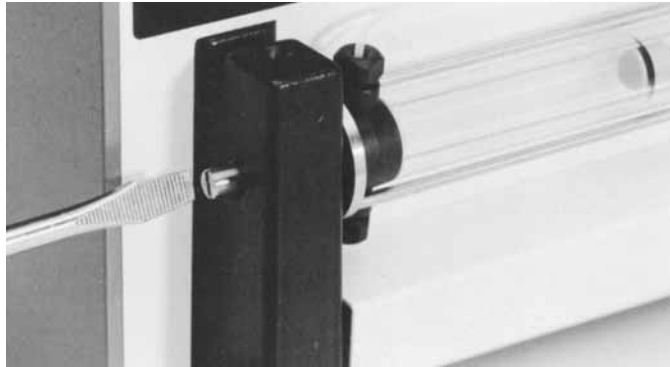

Fig 12. Removing the locking screw for the pump cylinder.
9. Unscrew, clock-wise, the locking screw for the pump cylinder (see Fig 12) and remove the pump cylinder. Disconnect the inlet and outlet tubings from the cylinder.